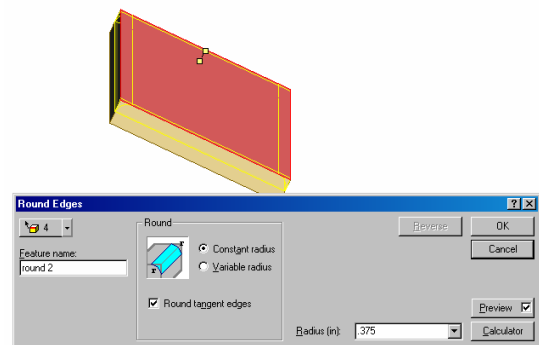

Figure 6. Top Face selected for rounding.
14. Figure 6 shows the top face selected and the Round Edges dialog box correctly filled for a 0.375" round. Notice the yellow trial view in the background. Click OK to complete the rounds.